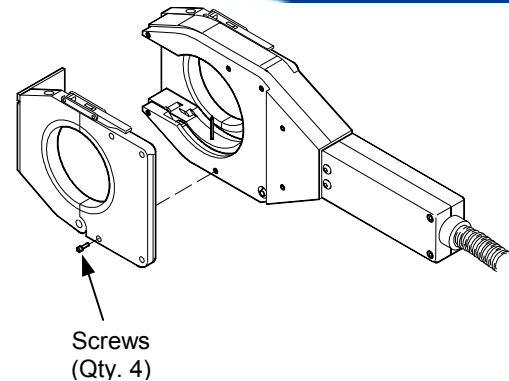

Figure 14 Removing the Left Side Plate
2. Remove the four screws from the left side plate. See Figure 14.